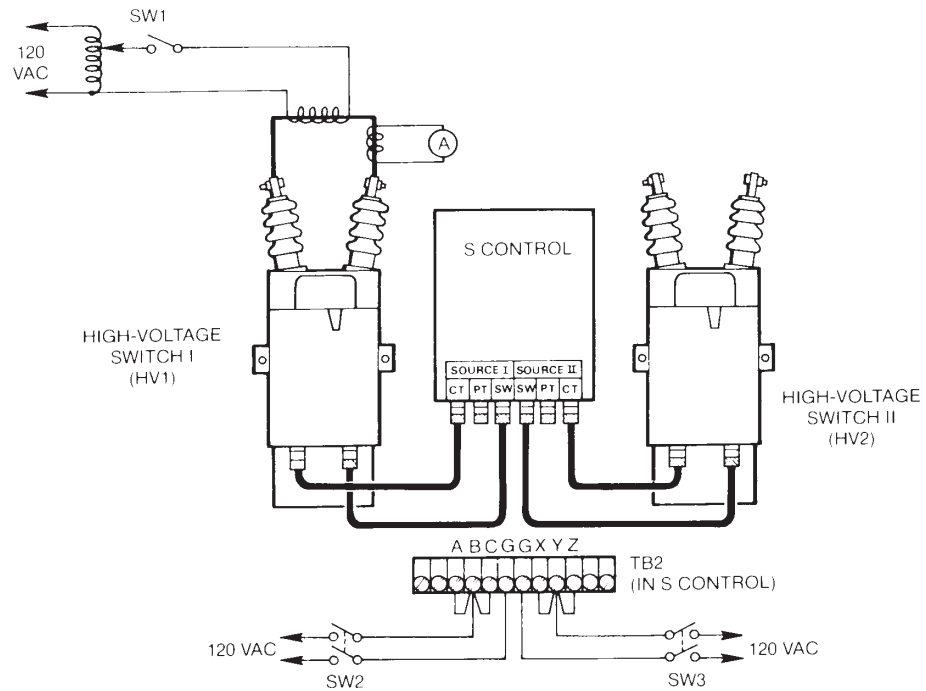

Figure 22. Test circuit for testing and troubleshooting the fault block accessory.
A suggested test setup is shown in Figure 22. If the control is equipped with the plug and receptacle accessory, use the existing cables to interconnect the motor operators of both high-voltage switches and the CT sensing circuits of the preferred source switch to the S control. If plugs and receptacles are not provided, wire the switches directly to the appropriate terminal blocks as shown in Figures 6 or 8.
1. Disable the ground sensing circuit by shorting the ground fault resistor (Figure 22).